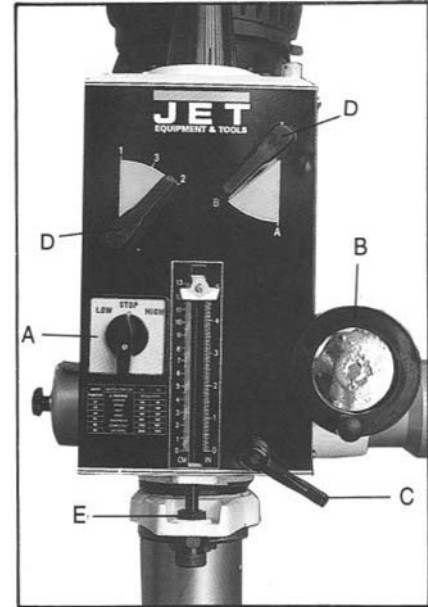

Figure 8
**Low/Off/High Switch (A, Figure 8)** – located top left side of the head assembly. Switch between low and high speed range. In the stop position, the spindle is stopped, but the machine still has power.
**Fine Feed Handwheel (B, Figure 8)** – located on the front lower right of the head assembly. Turn clockwise to lower the quill. Turn counter-clockwise to raise the quill.
**Quill Lock (C, Figure 8)** – located on the front lower right of the head assembly. Turn clockwise and tighten to lock the quill. Turn counterclockwise and loosen to unlock the quill.
**Speed Selectors (D, Figure 8)** – located on the top front of the head assembly. Used with low/off/high switch and the speed chart on the front of the head assembly to set the drill to a specific speed. **Caution: Change speeds only when the machine is stopped.**
**Depth Stop (GHD-20/20T) (E, Figure 8)** - located on the front bottom of the head assembly. When set, the quill will only advance to a certain depth.